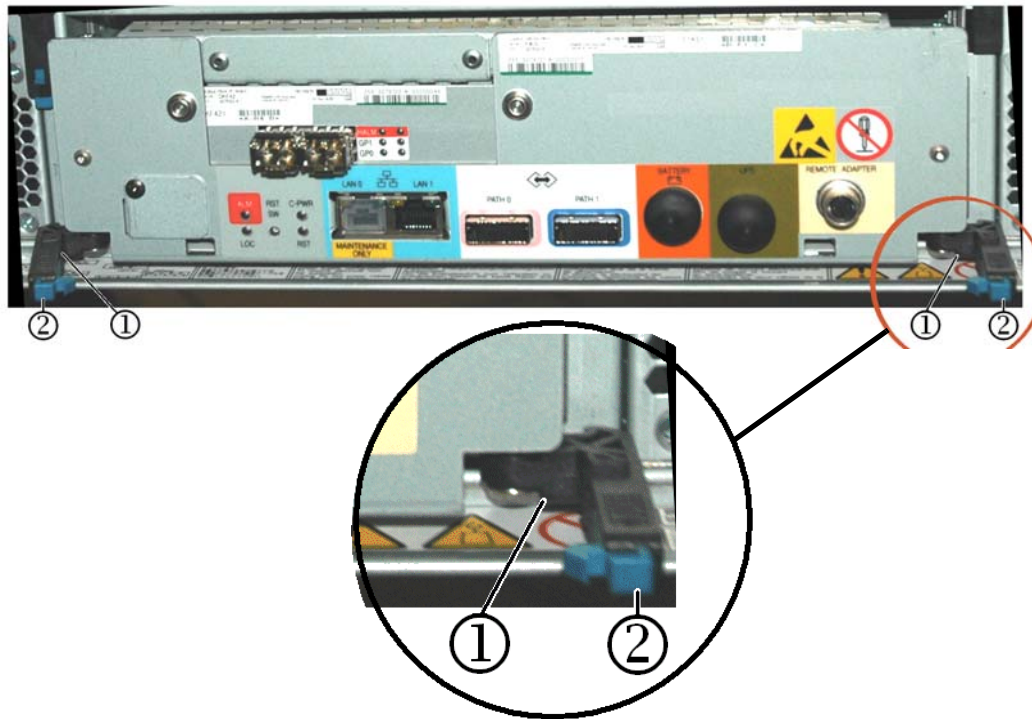

Figure 4-10: Unlocking a Control Unit
5. Pull outward on both lock levers to disengage the connectors in the unit. See Figure 4-10.